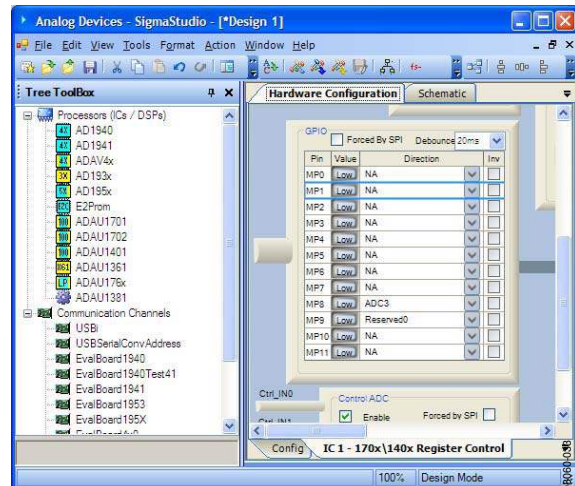

Figure 5. Hardware Configuration, GPIO Setting
1. In the **Hardware Configuration** tab under the **GPIO** box (see Figure 5), select the pull-down menu next to **MP8** and set for **ADC3**. This allows the rotary potentiometer on the board to be used as a volume control in conjunction with the **Auxiliary ADC Input** cell in the schematic window (see Figure 5).